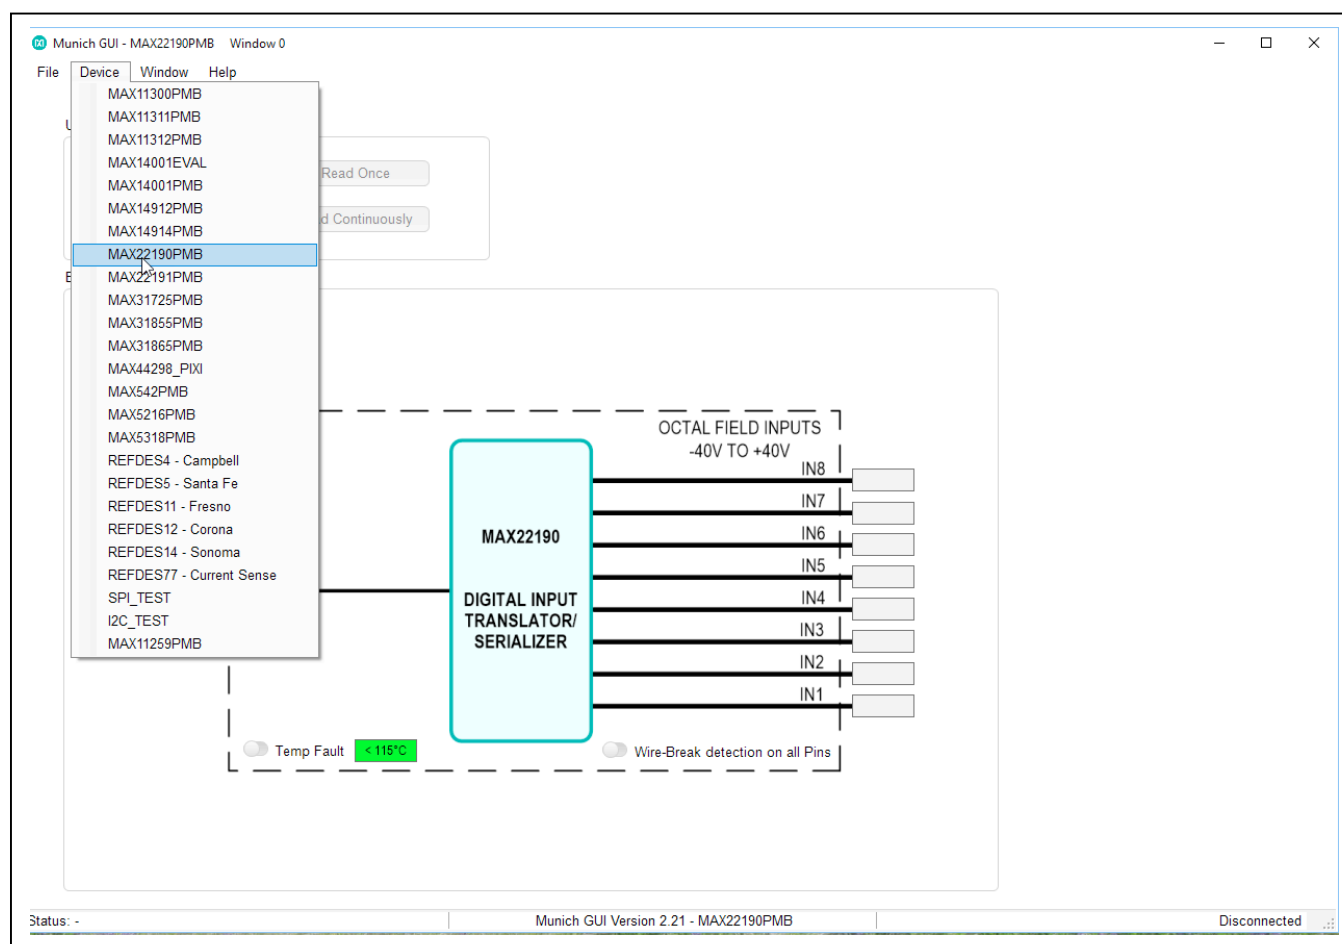
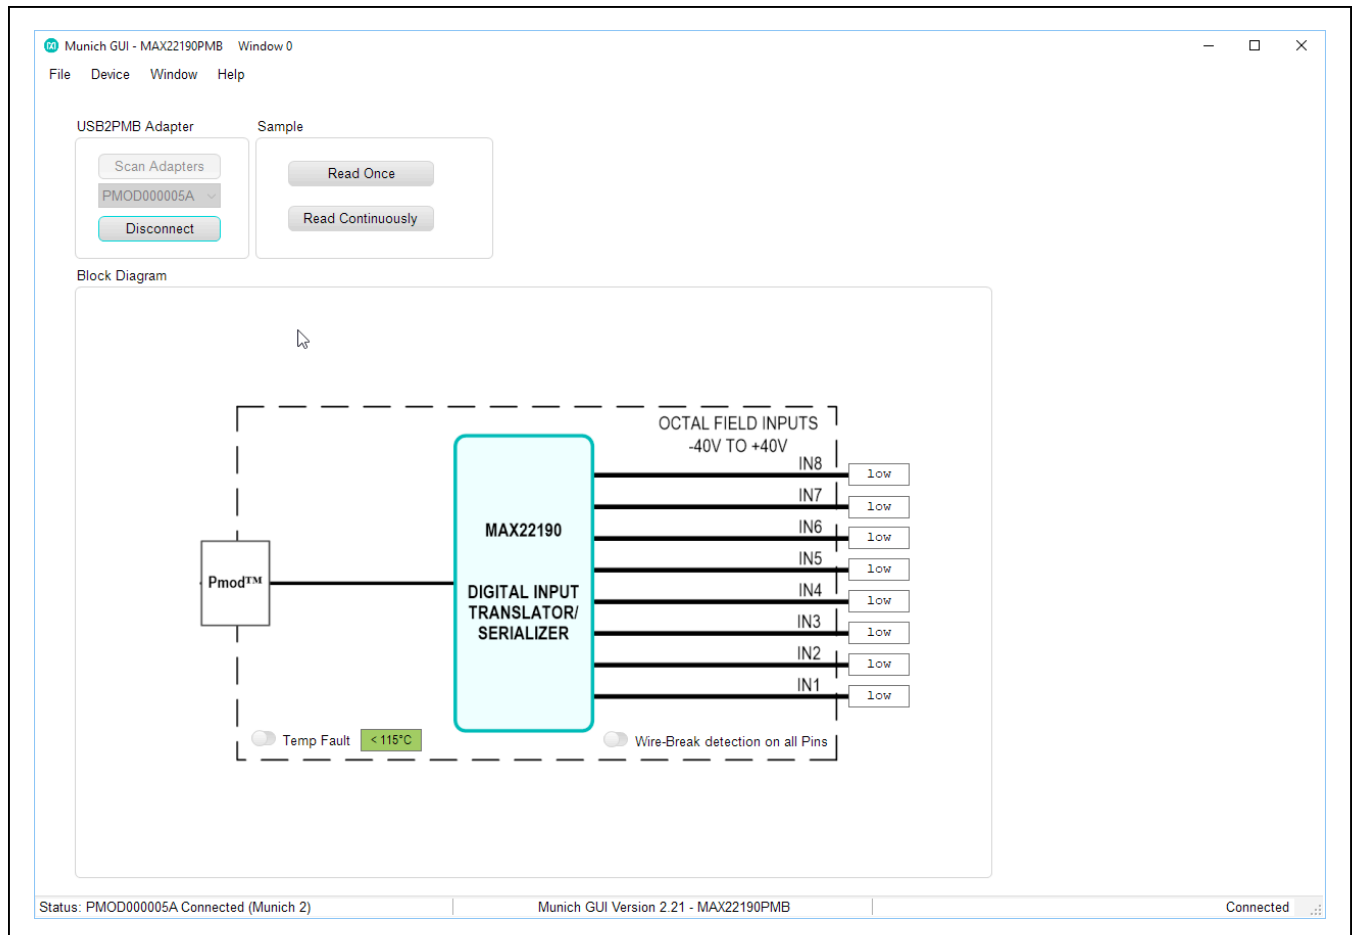

Figure 3. MAX22190PMB# Software (Munich GUI Device Menu)
Figure 4. MAX22190PMB# connected in Munich GUI Device Wire Break Disabled
- 6) Once the hardware is ready to use, launch the Munich software. The status bar in the GUI should display **Disconnected** in the bottom right-hand corner. Go to the **Device** tab to select the **MAX22190PMB**. See Figure 3.
The Device menu has options to search and connect to the hardware (see Figure 3). Select MAX22190PMB. Use the **Scan Adapters** option to search for the USB2PMB modules connected to the PC. If modules are found, the serial numbers of the modules are listed in the **USB2PMBs** menu item. Select the serial number in the **USB2PMBs** list to connect the software to communicate with that module. The software can only communicate to one module at a time. Select **Connect** and notice how status changes from **Disconnected** to **Connected** in the lower-right area of the GUI (see Figure 4).